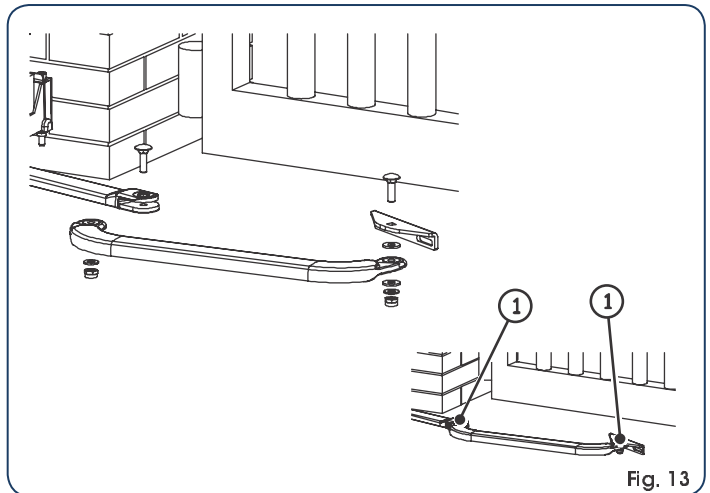

Fig. 13
7. Assemble the rest of the arm as illustrated in Fig. 13.
👉 *For correct operation, tighten the two securing screws (Fig. 13 ref. ①) and then loosen them by about 1/2 turn to enable rotation without any friction on the arms.*